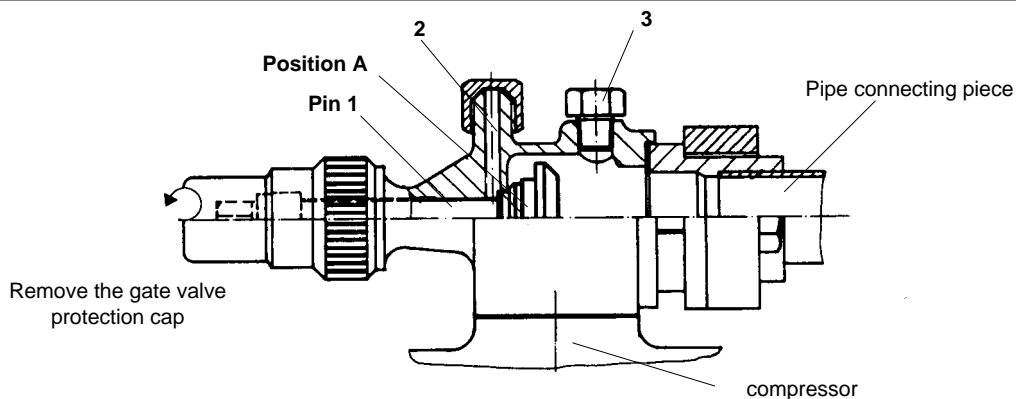

Fig 11
- For valve **19**, (upflow), loosen and move pin 1 backwards to position A (see fig. 11)
→ valve completely open/service connection piece 2 closed (position A), fig. 11.